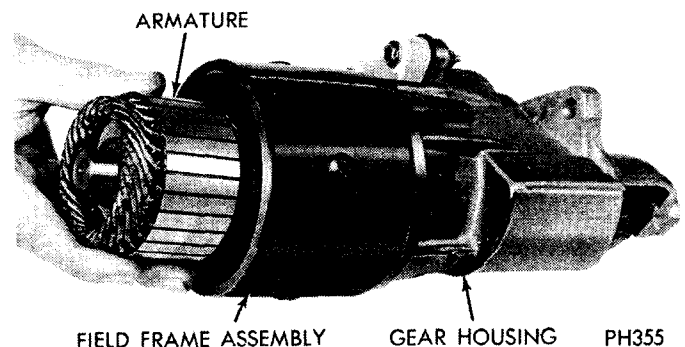

Fig. 3—Removing Armature
(2) Carefully remove armature from gear housing and field frame assembly, by pulling outwards, (Fig. 3).